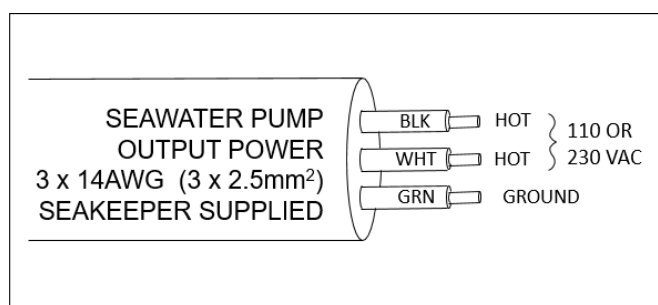
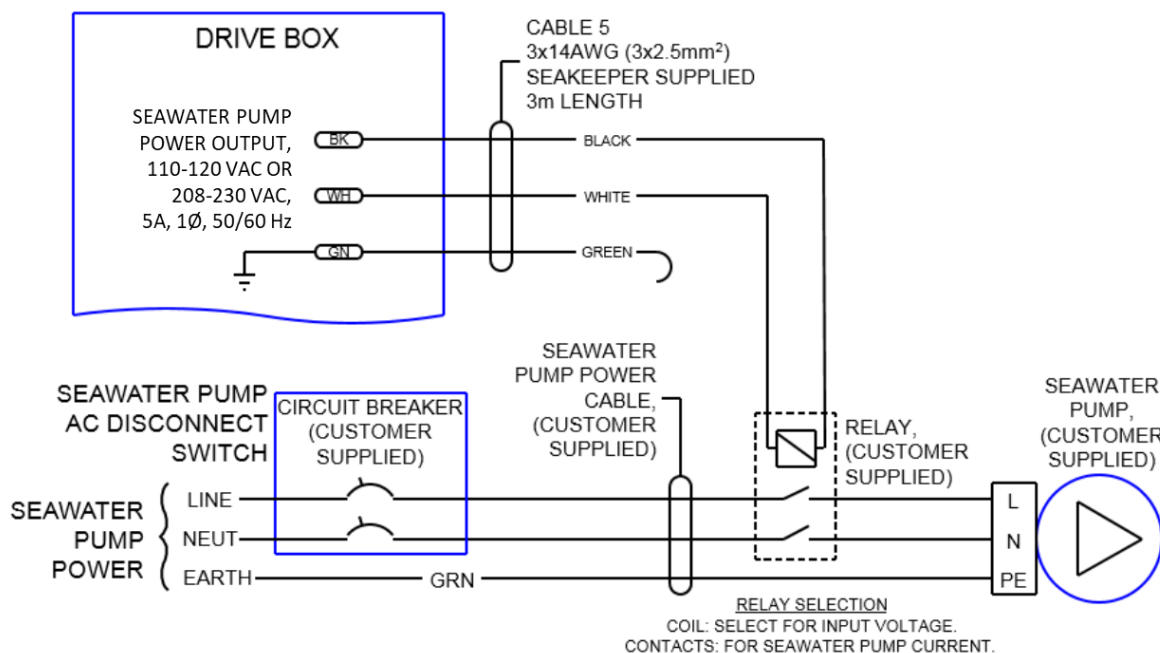

FIGURE 4 – CABLE 5, AC OUTPUT POWER CABLE
FIGURE 6 – RECOMMENDED WIRING FOR SEAWATER PUMPS NOT MATCHING INPUT AC VOLTAGE
- i. Connect the AC output conductors in CABLE 5 to a 5 Amp maximum, Seawater Pump according to Figures 4 and 5.
- The recommended wiring is shown in Figure 6. Refer to Figure 4 for Cable 5 wire connections.